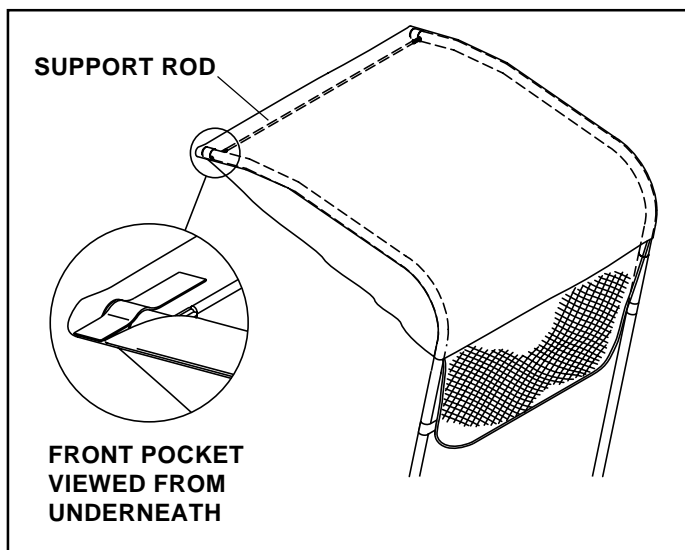

FIGURE 9
- Pull the front of the sun shade top forward past the ends of the top tubes. Pull the sun shade back onto the tubes inserting the capped ends of the tubes into the pockets on the front of the sun shade. See figure 9.